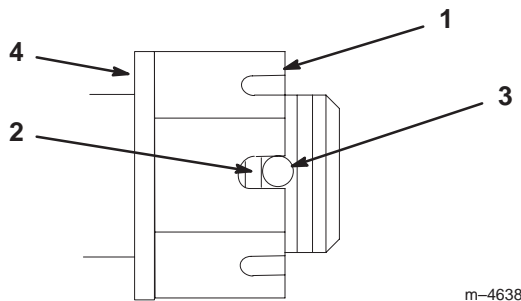

Figure 38
3. Torque slotted nut to 125 ft-lbs (169.5 N•m) (Fig. 38).
4. Check the distance from bottom of slot in nut to inside edge of hole. Two threads or less should be showing (Fig. 38).
5. If more than two threads are showing remove nut and install washer between hub and nut (Fig. 38).
6. Torque the slotted nut to 125 ft-lbs (169.5 N•m) (Fig. 38).
7. Tighten nut until the next set of slots line up with the hole in the shaft (Fig. 38).